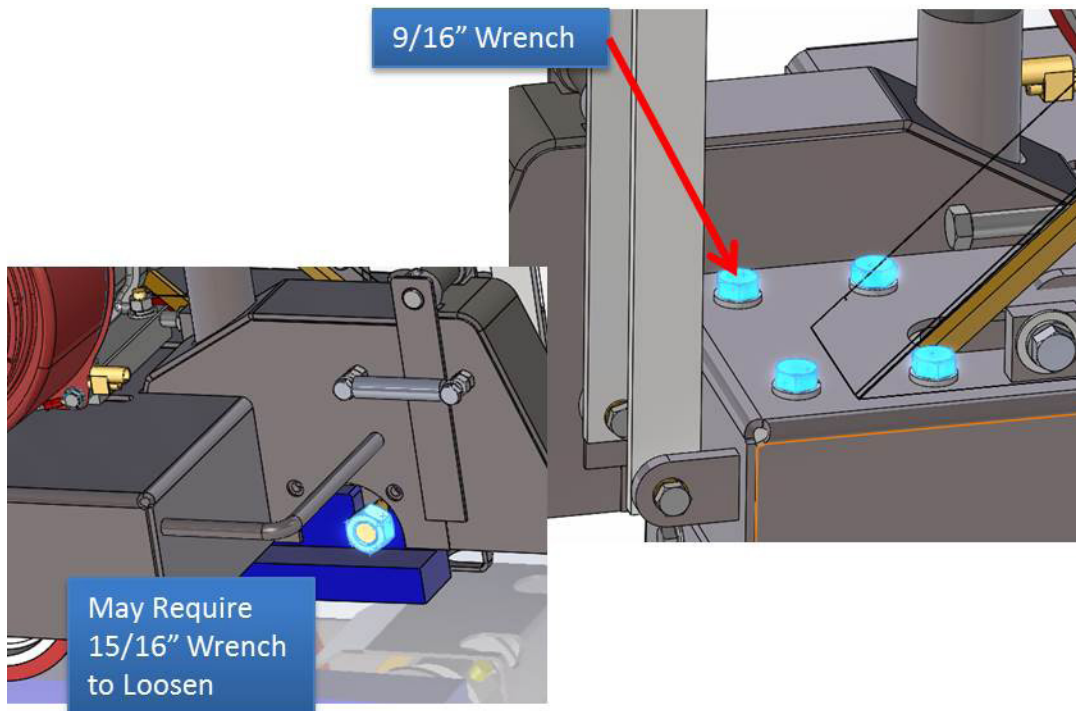

Figure 12. Loosening Flange Nut
13. Retighten four spindle bearing screws and loosen blade flange nut (Figure 12).